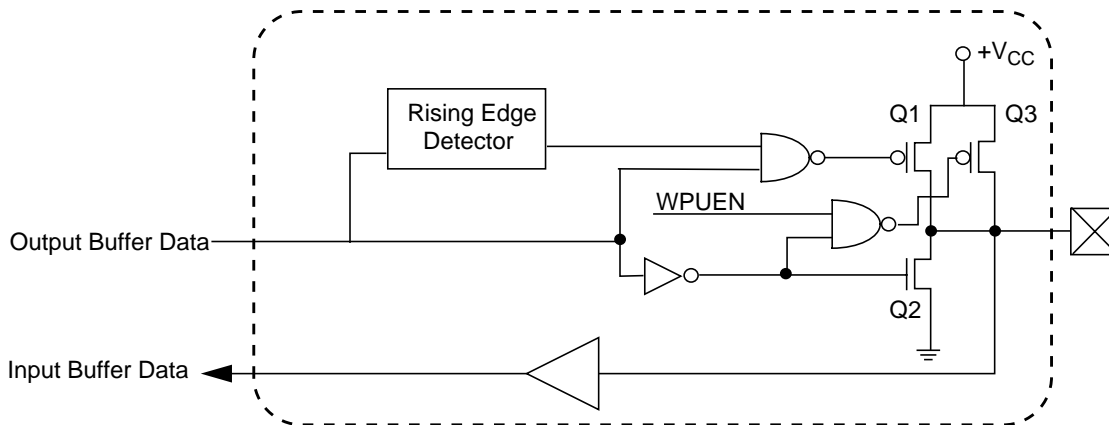

Figure 39. Quasi-Bidirectional Buffer
The quasi-bidirectional drivers have an open-drain output (Q2), an internal pull-up (Q3) and a low-impedance pull-up(Q1). Q2 pulls the signal low whenever the output buffer data is “0”. The weak pull-up (Q3) is active whenever the output buffer data is “1” and WPUEN in PSCON register is set (1). The low impedance pull-up is active whenever the PC87591x changes the output data buffer from “0” to “1”, thereby reducing the low-to-high transition time. The length of time that the low-impedance pull-up is active is determined by HDRV field in PSCON register. A schematic description of this output driver appears in Figure 39.